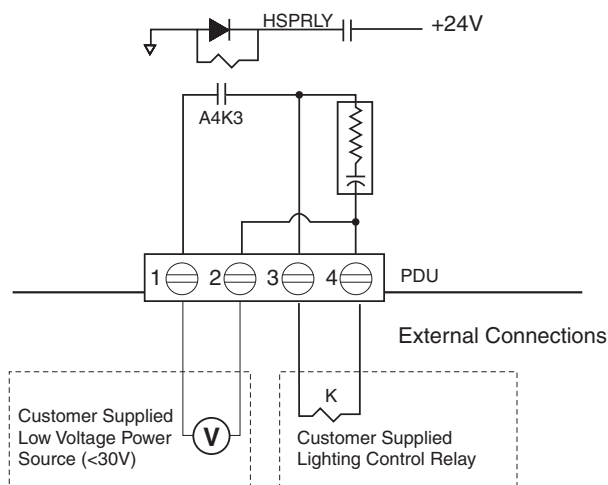

Figure 2-33 External X-ray Light Connection
- 2.) This step is site-specific. By default, the PDU is configured for “no” external X-ray light connection. If you have an external X-ray light, see Figure 2-33 for proper connection.
It is recommended to use the four (4) wire method of adding an X-ray warning light to a room, as shown in Figure 2-33. When using this method, you: